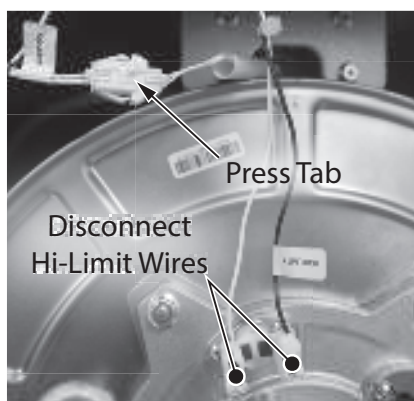

Figure 143 - Disconnect hi-limit and exhaust thermistor wiring
- 34** Locate the burner door hi-limit and exhaust thermistor wiring connected to the heat exchanger as shown in Figure 143. Disconnect the hi-limit wires (labeled "HI LIMIT 1") from terminals. Disconnect the thermistor wiring (labeled "EXHAUST") by pressing on the small tab while separating the wires.
- 63** Follow **Steps 34-35** in reverse order to connect burner door hi-limit and exhaust thermistor wiring. Confirm connections are tight and routed properly as shown in Figure 143.